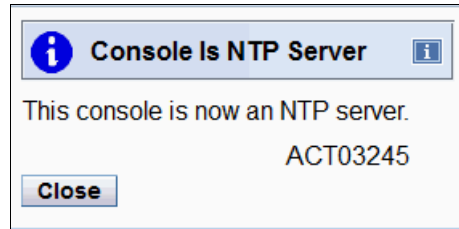

Figure 9-11 HMC: Customize Console Date and Time - Console is NTP Server panel
- After processing is completed, the next window opens (Figure 9-11 on page 518). Click **Close**. The Customize Date/Time panel closes. This is the last step of the HMC as NTP server.